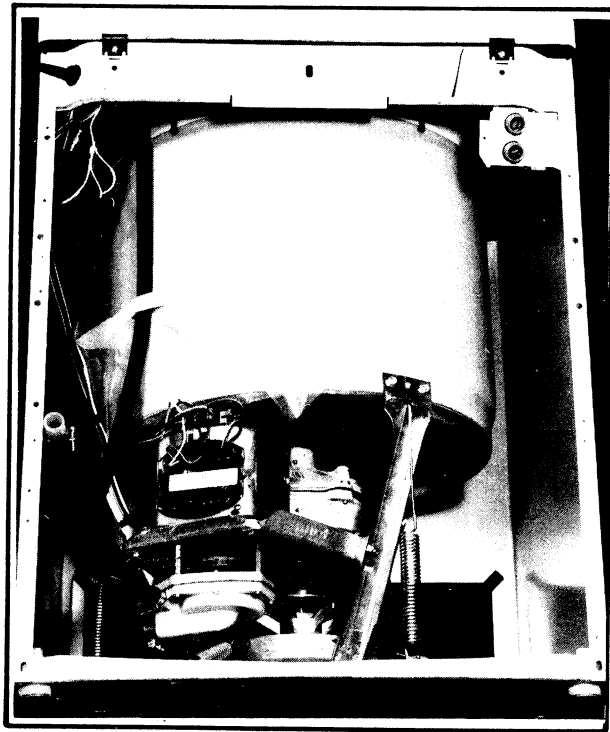

Figure 9 — Rear Panel Removed
2. Remove all the screws that fasten the rear panel. See *Figure 9*.